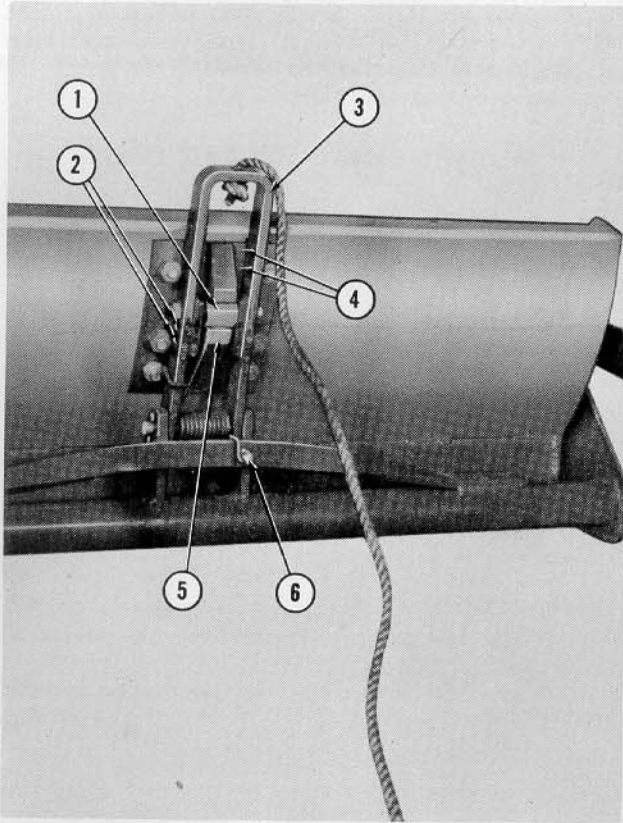

Figure 10
**PITCH:** The angle of the tines in the fork can be adjusted by changing the position of the latch roller (1), Figure 10. To decrease the angle of the fork, remove the roller and reattach the assembly in one of the two lower holes (2), Figure 10, provided. Adjust the set screw (6) so that the latch assembly (3), touches the bucket latch plate at the points (4). Secure the set screw (6) with the locknut provided.